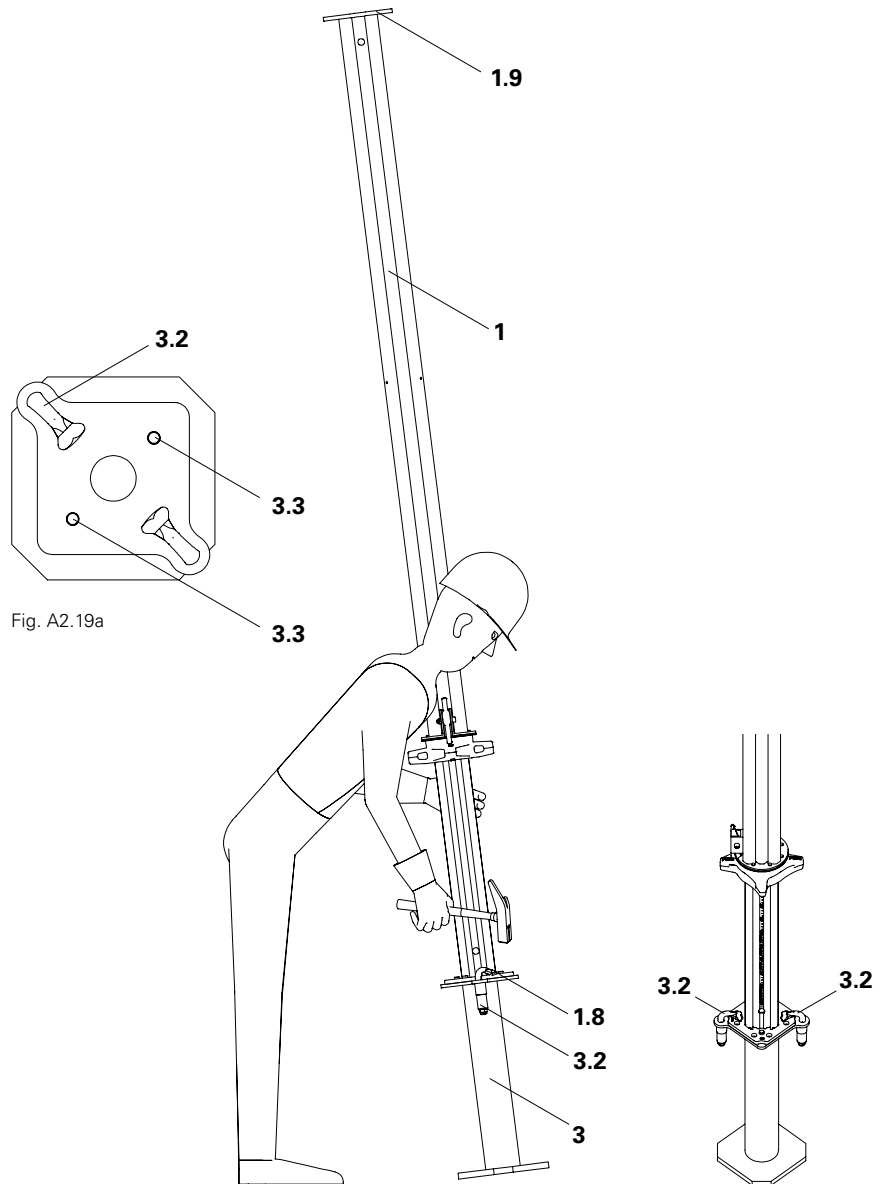

Fig. A2.19a
1. Place Slab Prop (1) on the Base MP 50 (3).
2. Centring pins (3.3) of the base engage with the drilled holes of the base plate (1.8) or head plate (1.9) of the slab prop. (Fig. A2.19a)